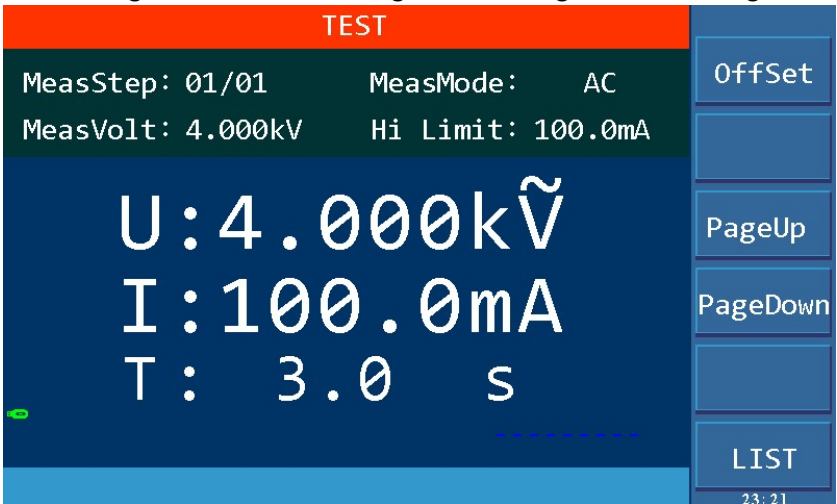
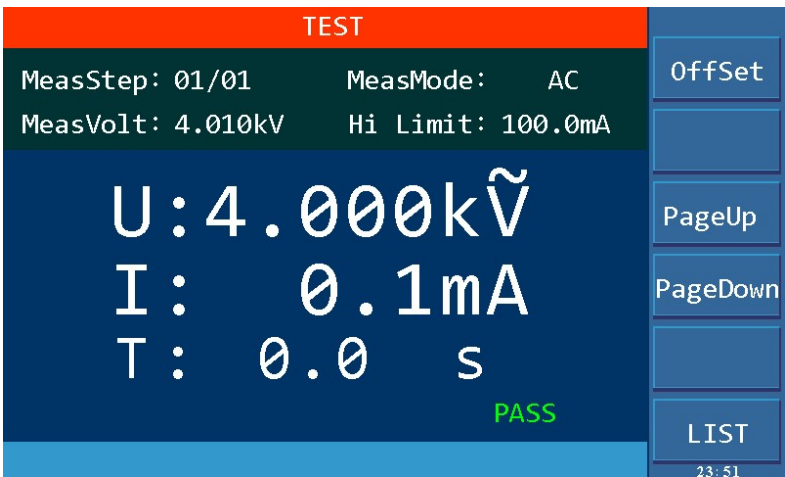
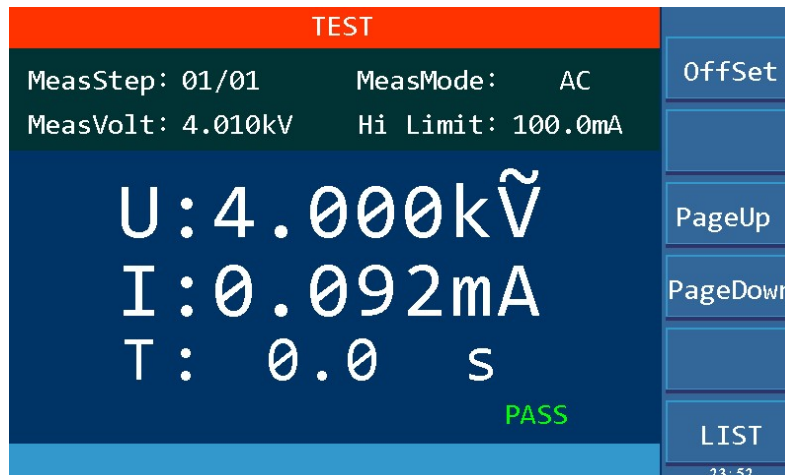

Figure4-4.1
Figure4-4.2
Figure4-4.3
When the auto range, that is, the withstand voltage auto range function is set to ON, at 0.6S before the completion of the test, if the measured current can be expressed by the low current range, the current range is automatically changed to the low current range. Examples are shown in Figure 4-4.1 and Figure 4-4.2 and Figure 4-4.3.
1. If the current range in TEST is set as high current range, 100mA in Figure 4-4.1.
2. But the actual current is comparatively small, 0.4mA as shown in Figure 4-4.2.
3. At 0.6S before the completion of the test, the current range is switched to the appropriate low range, which is 0.092mA in Figure 4-4.3.